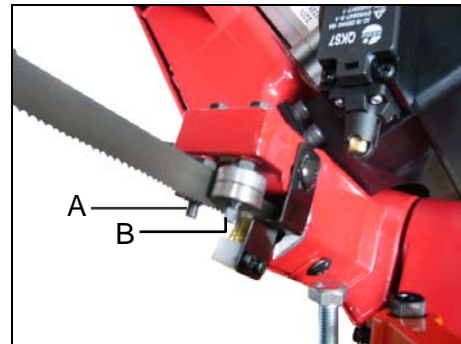

Fig. 25
3. Poor cuts can be made because the fixed nuts (A) in Fig.25, 26 are getting loose. Then tighten it properly.